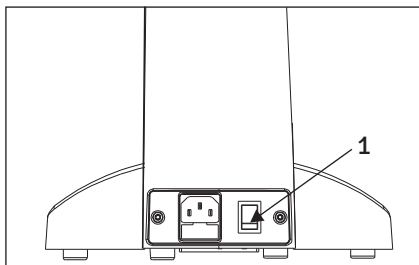

Fig. 20
1. Flip the main switch to “I” (ON) as shown in figure 20.